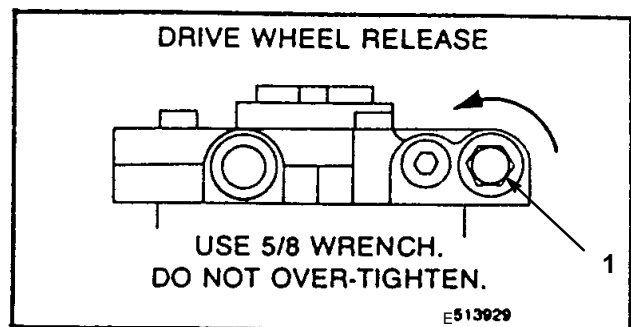

Figure 16
2. Rotate the by-pass valves counterclockwise 1 turn to push. This allows hydraulic fluid to by-pass the pump enabling the wheels to turn (Fig. 16).
1. Turn the by-pass valves in to operate (Fig. 16).